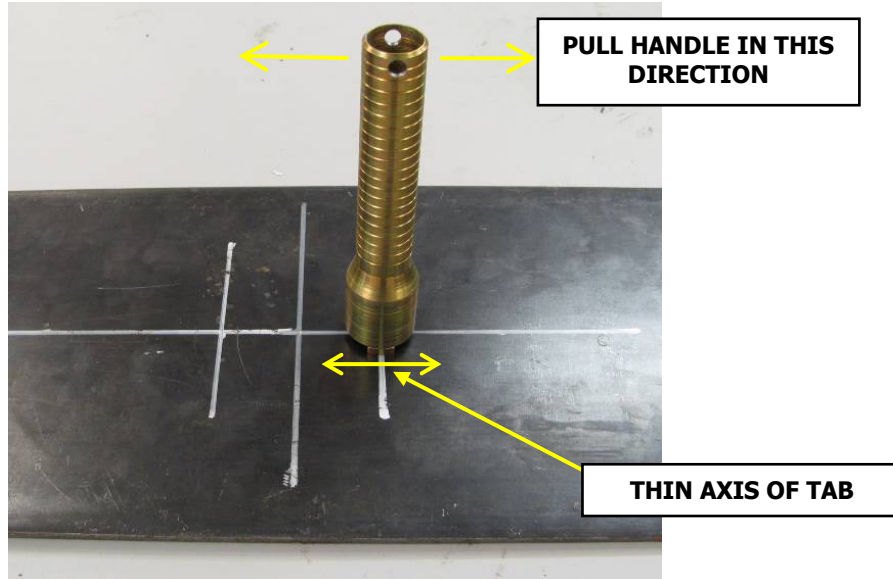

Figure 16: Removing Tab with TRT
3. In the direction of “thin” axis of the tab as shown in Figure 16, give the TRT a quick tug or tap and the tab should pop off the member surface. Depending on how well the tab is fixed, particularly on a steel surface, more force may be required. In this case, simply hit the handle of the tool with a small rubber mallet. Note that holes in the top of the tool have been supplied so that a lanyard can be added if necessary.